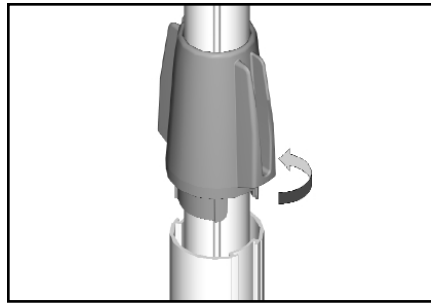

Figure 13
8. Lift the blue locking handle out of the lower portion of the post. Using the blue piece as a handle, twist the post as follows (Figure 13):